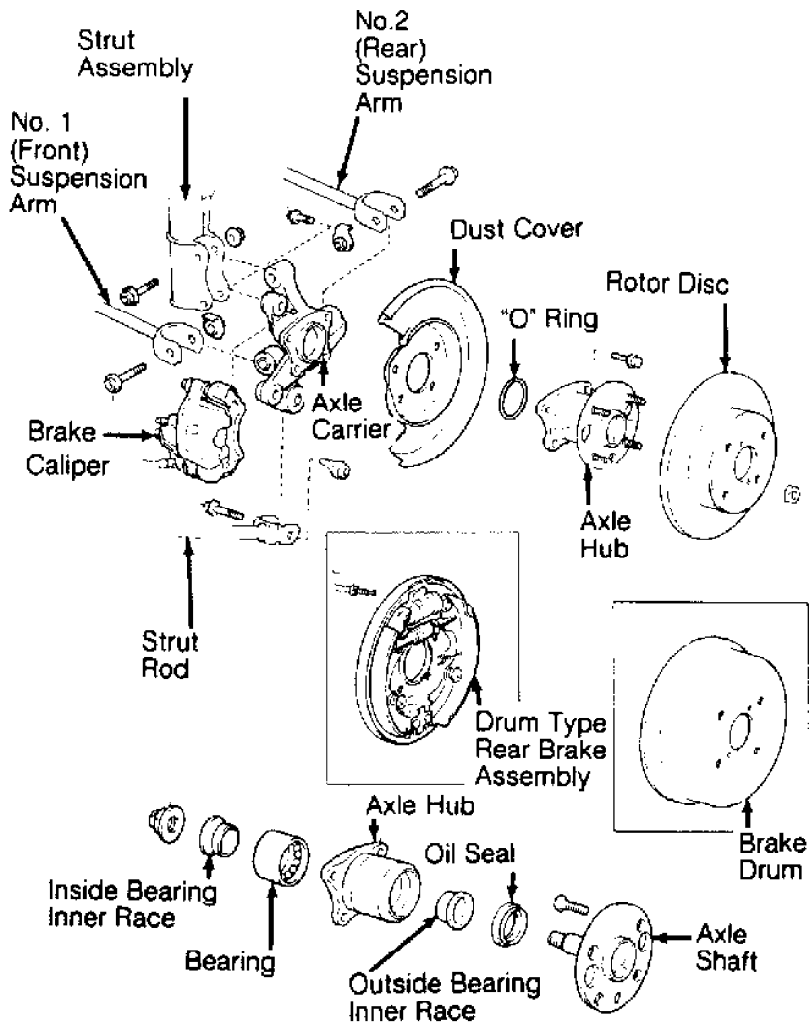

Fig. 1: Exploded View Of Typical FWD Rear Axle Components
On Celica FWD, suspension uses MacPherson struts, fastened to rear axle carrier and wheelwell. Wheel bearings are mounted in axle hub, bolted to rear axle carrier. See Fig. 1.
1) Raise and support vehicle. Remove rear wheels. On models with ABS, remove rear speed sensor. On drum brake models, disconnect brake line (tube) at wheel cylinder. Plug line openings. Remove brake drum. See Fig. 1.